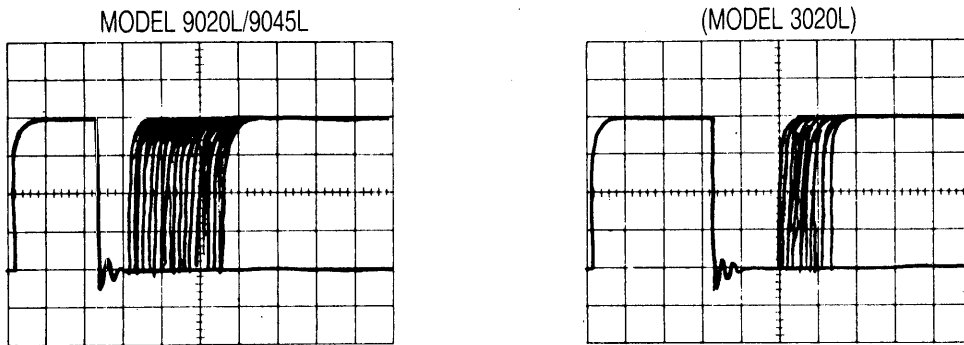

Figure 7-10 Differentiator Symmetry/Balance
7.4.2 Differentiator Symmetry/Balance (R15) (Figure 7-10)